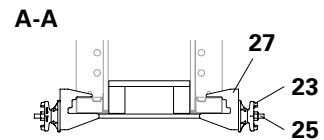

Fig. B10.06a
- Top Tie Bracket-2 AH (27) with Tie Rod (25) and Wingnut Pivot Plate (23). (Fig. B10.06a)